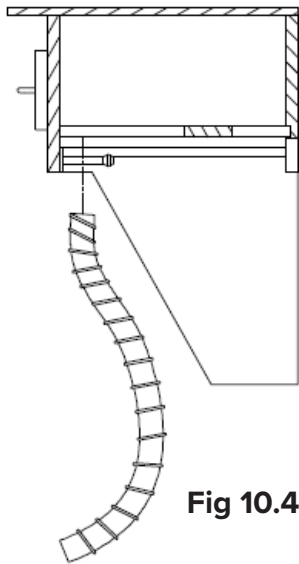

Fig 10.4
1. Inset Umbilical through Hose Clamp opening (Fig 10.4).